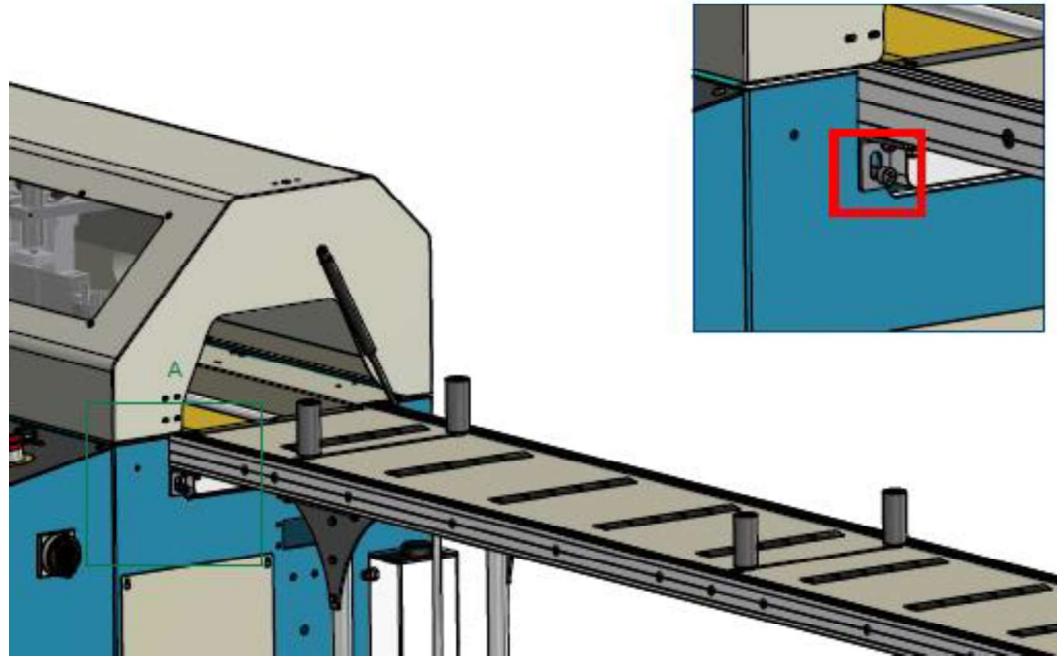

FIGURE 15
- After assembling, mount conveyor on to chassis, which is at the right side of machine, using the nuts placed on the machine as shown in figure (FIGURE 15).